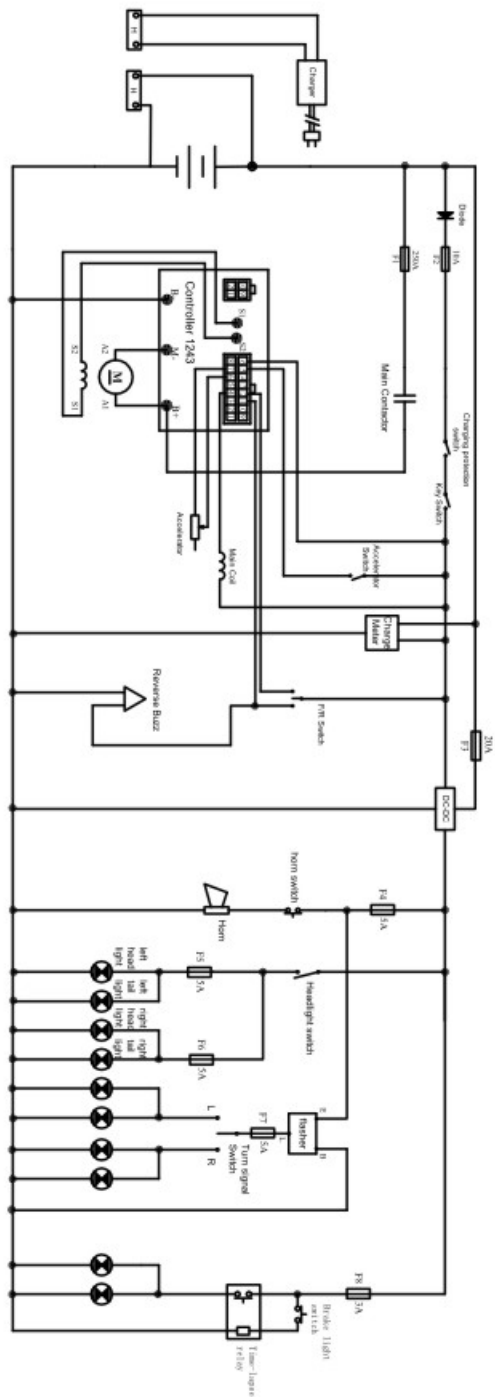

FIG.1
1)Wiring diagram for vehicle 36V with Curtis Controller 1243 (FIG. 1)